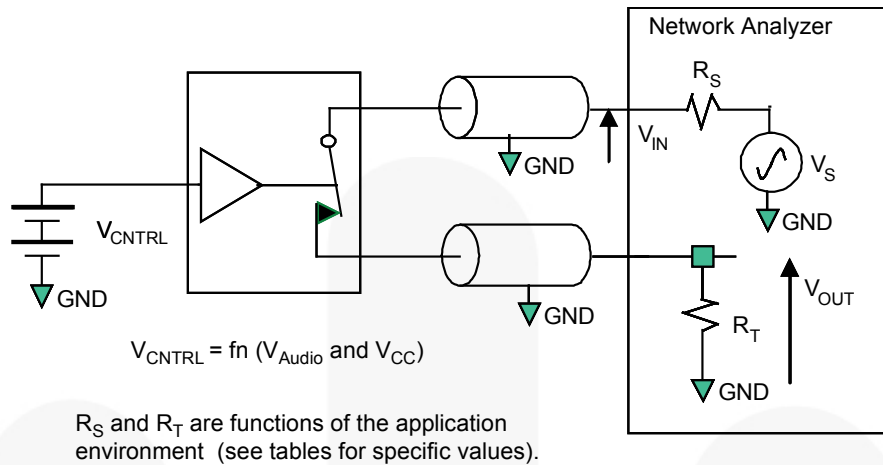

Figure 20. USB Bandwidth
| BW                     | -3db Bandwidth - USB                         | 3.0 to 4.3 (10) | R T =50 Ω, C L =0 pF, Signal 0 dBmFigure 20                               |                                 | 720  |      | MHz  |